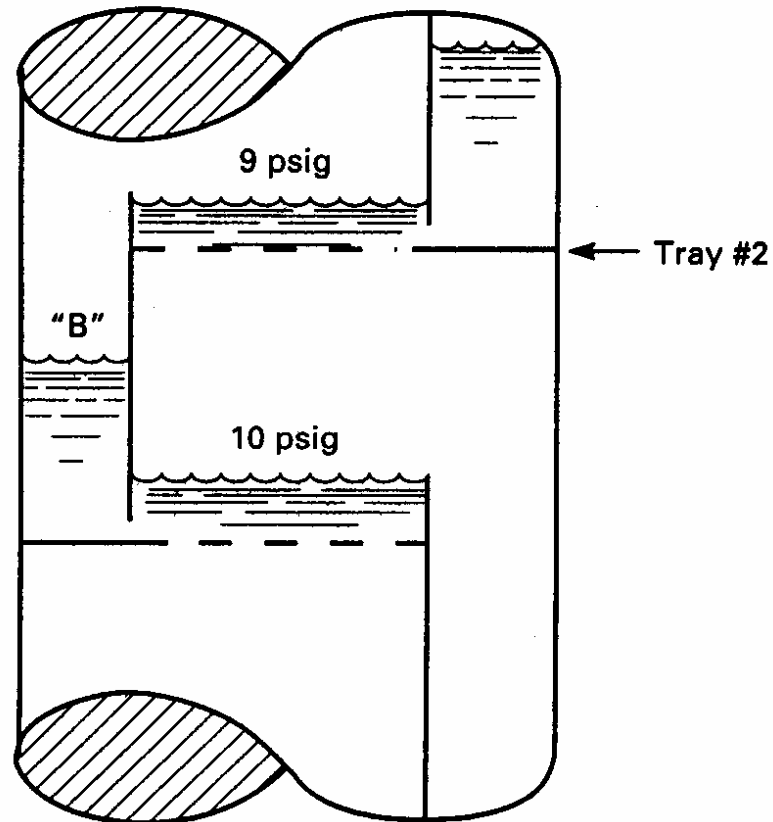

Figure 1.7 Vapor ΔP causes downcomer backup.
- Let us assume that vapor flowing through a tray deck undergoes a pressure drop of 1 psig (lb/in² gauge). Figure 1.7 shows that the pressure below tray deck 2 is 10 psig and the pressure above tray deck 2 is 9 psig. How can the liquid in downcomer B flow from an area of low pressure (9 psig) to an area of high pressure (10 psig)? The answer is gravity, or liquid head pressure.